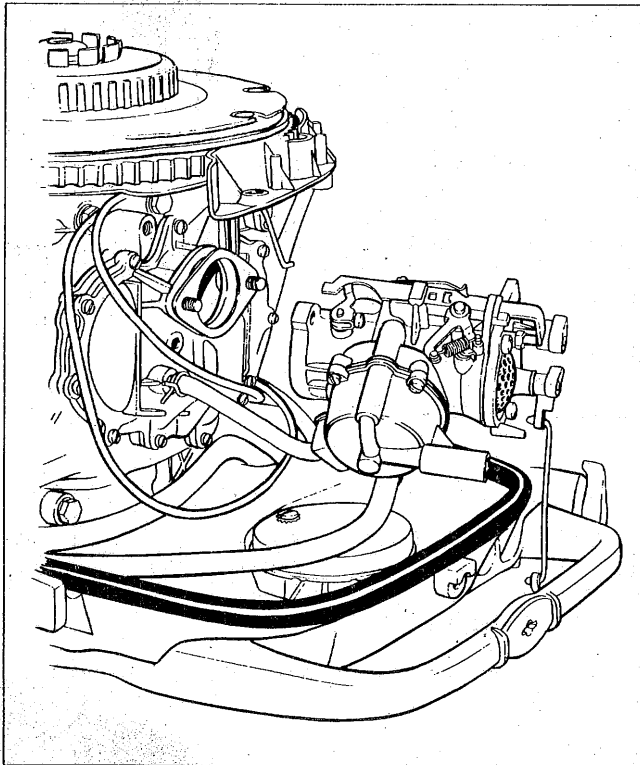

FIGURE 3
7. Remove carburetor to manifold attaching nuts and remove carburetor from manifold. See Figure 3.